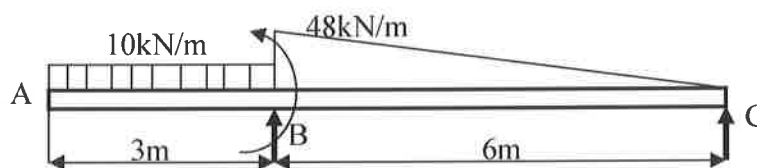

Figure Q8
8. A beam ABC is 9 m long and is supported at B and C, 6 m apart as shown in Figure Q8. The beam carries a non-uniform distribution load over the portion BC of 48 kN/m, together with an applied counterclockwise couple of moment 80 kNm at B, and a uniformly distributed load of 10 kN/m over AB. Draw the shear force and bending moment diagrams for the beam, indicating all significant points.